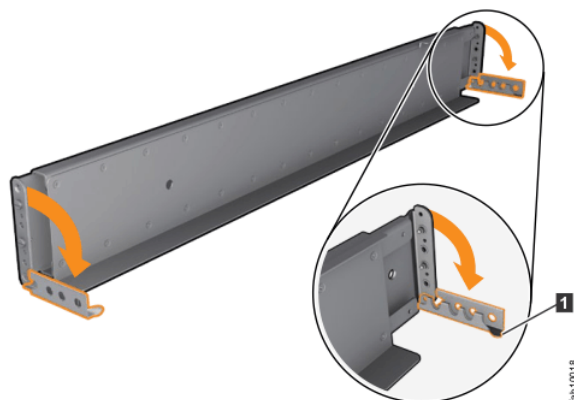

Figure 35. Opening the hinge brackets
6. At each end of the rail, grasp the tab **1** and pull *firmly* to open the hinge bracket (see Figure 35 on page 70).